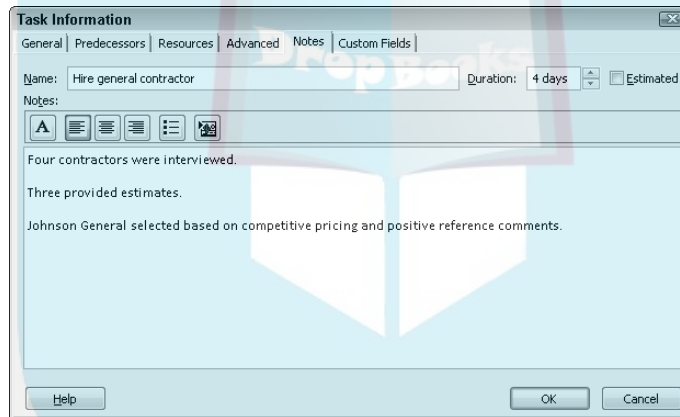

Figure 4-13:
2. Click to select the Notes tab (as shown in Figure 4-13).